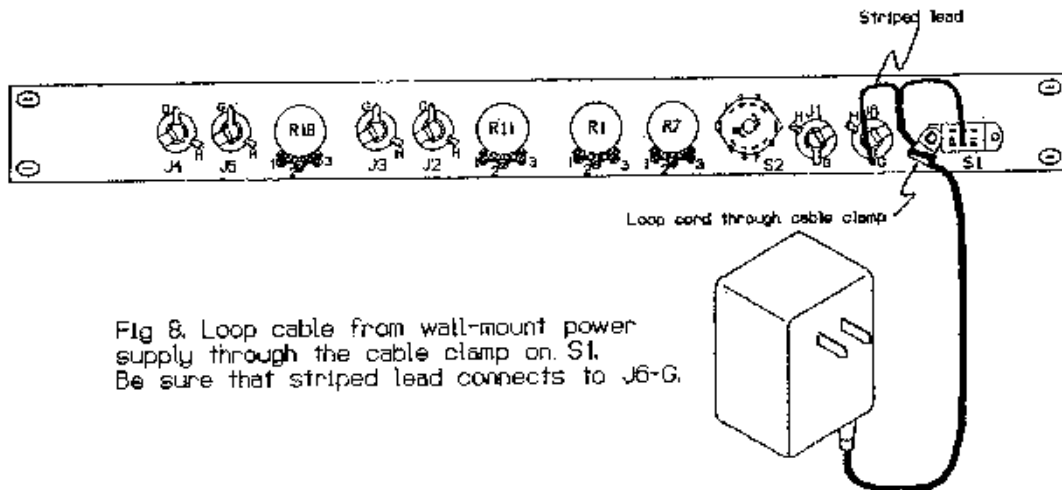

Fig 8. Loop cable from wall-mount power supply through the cable clamp on S1. Be sure that striped lead connects to J6-G.
- ( ) Loop the cord from the power supply through the cable clamp attached to power switch S1. Connect the wire with the colored stripe to J6-G (S-3). See Fig 8.